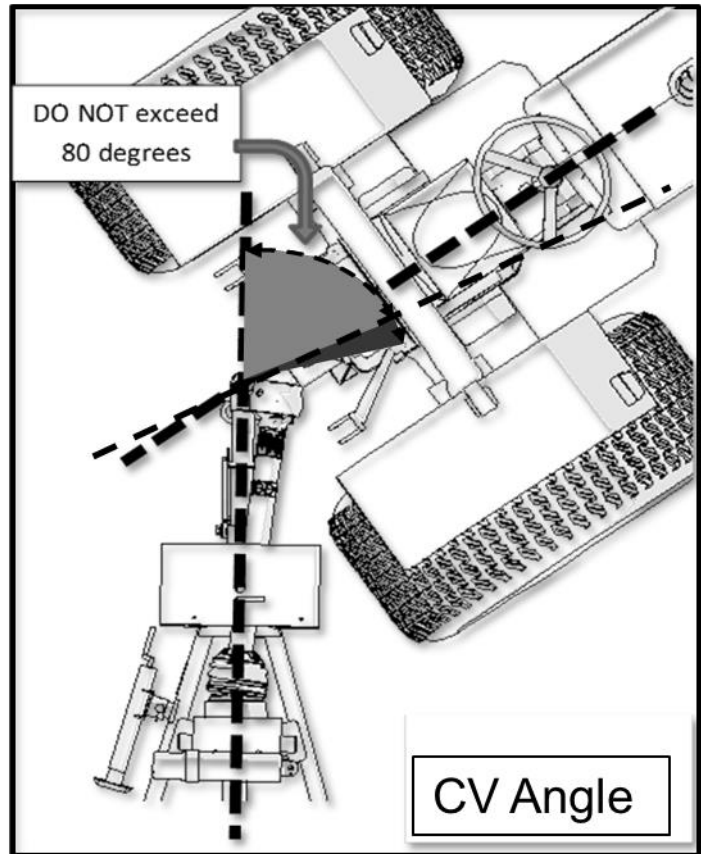

Figure 7
- 1) With the tractor in the lowest gear and travelling very slowly, make a sharp turn to the right – do not let the CV joint exceed 80 degrees – see Figure 7 page 24.
Never allow the CV Joint to exceed an angle of more than 80 degrees or damage will result. See Figure 7.